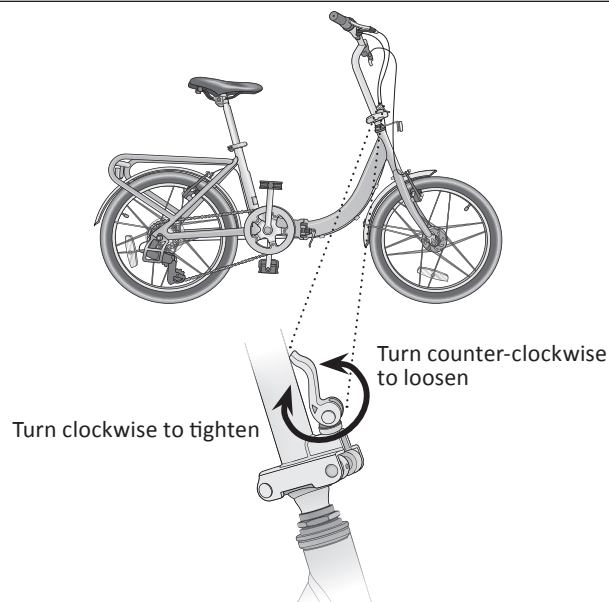

Figure 4.2
- 2 To tighten the handle post latch, turn the handle post latch bolt clockwise. To loosen the latch turn the handle post latch bolt counter-clockwise. Adjust in 1/8 turn increments until the latch is properly adjusted. **Figure 4.2**